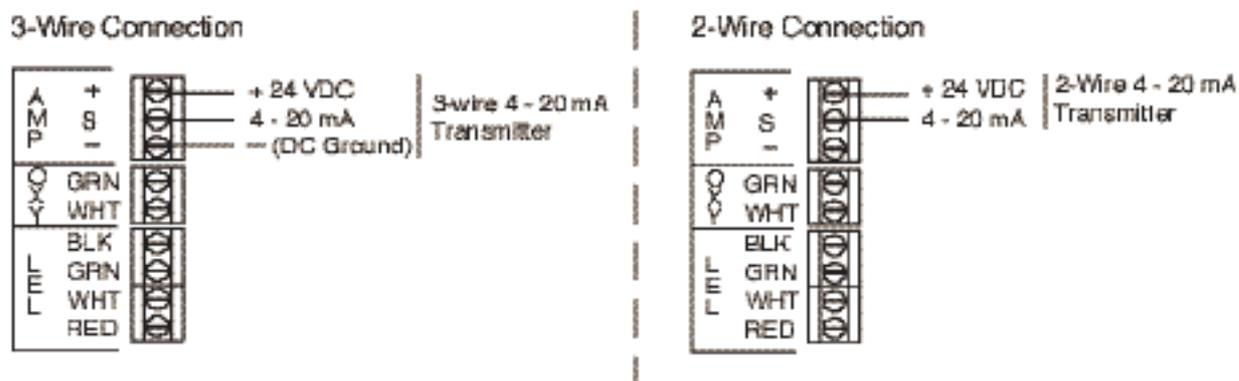

Figure 8: Generic 4 - 20 mA Transmitter Wiring
6. Connect the wires from the transmitter to the AMP terminal strip. Figure 8 below illustrates typical transmitter wiring connections. See the transmitter instruction manual for controller terminal connections. If shielded cable is used, connect the cable shield’s drain wire at the GasScanner 1C to the ground stud on the main PCB.